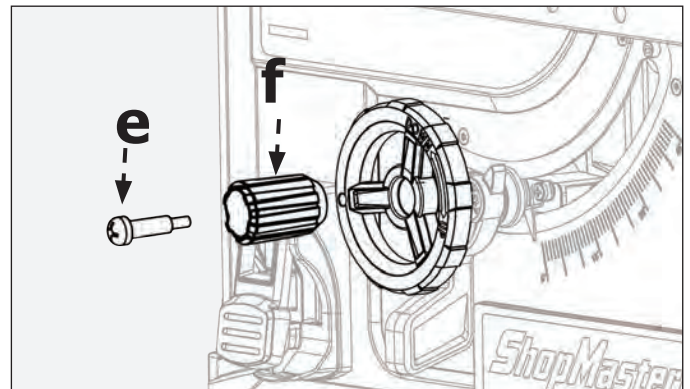

Figure 5
- Insert shoulder screw (e) into height adjustment knob (f) as shown in (Fig. 5).